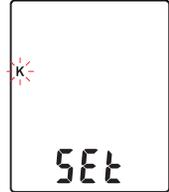

Fig.4
- (1) Power off the meter first. Press and hold MIN MAX button, then press  button to power on and enter setting mode. Release all buttons, the LCD blinks "SEt".
- (2) Press ▼ (°C/°F) button to Selecting Thermocouple type (see Fig.4)
- (3) Press ▲ (T1-T2) to select from K, J, E, or T type thermocouple.
- (4) When done, press ▼ (°C/°F) button to exit setting mode °